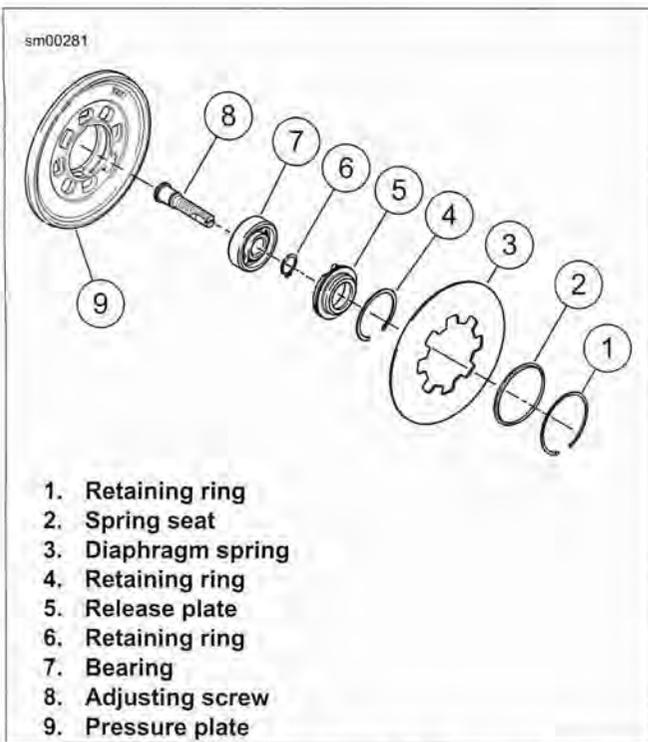

Figure 5-14. Adjusting Screw Assembly
1. See Figure 5-14. Remove adjusting screw assembly.
- a. Remove and discard small retaining ring (6).
- b. Separate the adjusting screw (8) from the bearing (7) and release plate (5).
- c. Remove bearing (7) from release plate (5).